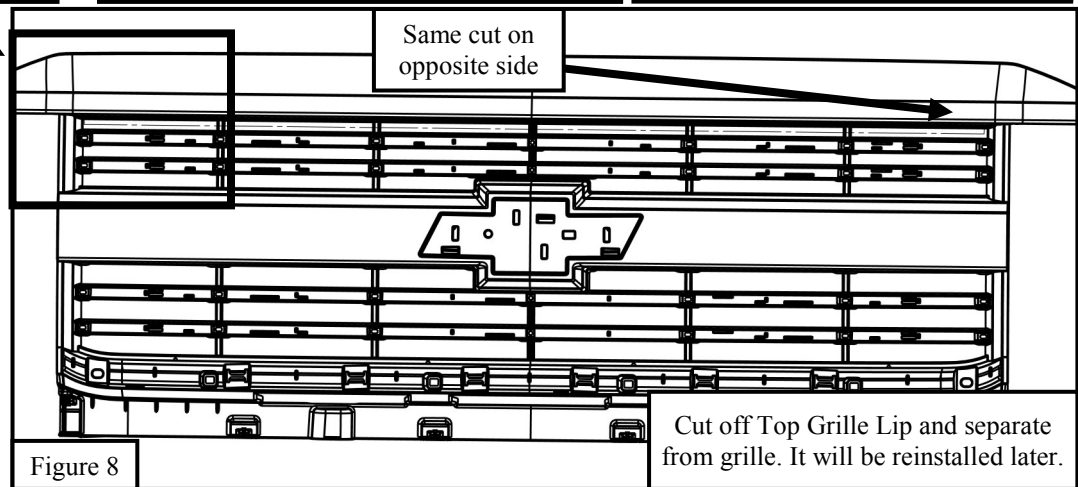

Figure 8
7. Remove OE Top Grille Lip from OE Grille with a cutting tool. See **Figure 8**.